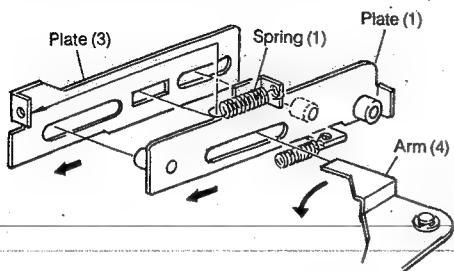

Fig. 12
2. Plate (3), through Spring (1), moves together with Plate (1) to turn Arm (4) and to make the Head Base move backward (see Fig. 12).